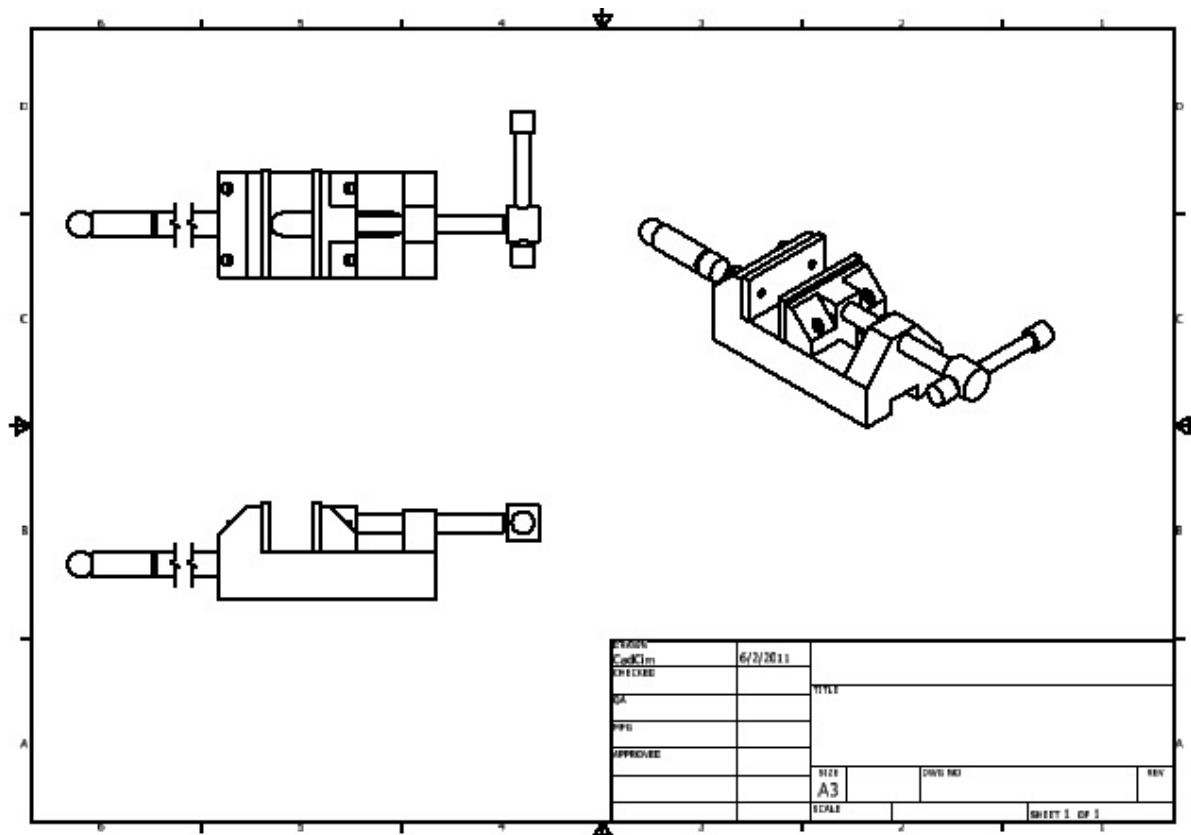

Figure 12-30 Drawing sheet after generating the drawing views
2. Generate the front and isometric views, as shown in Figure 12-30.